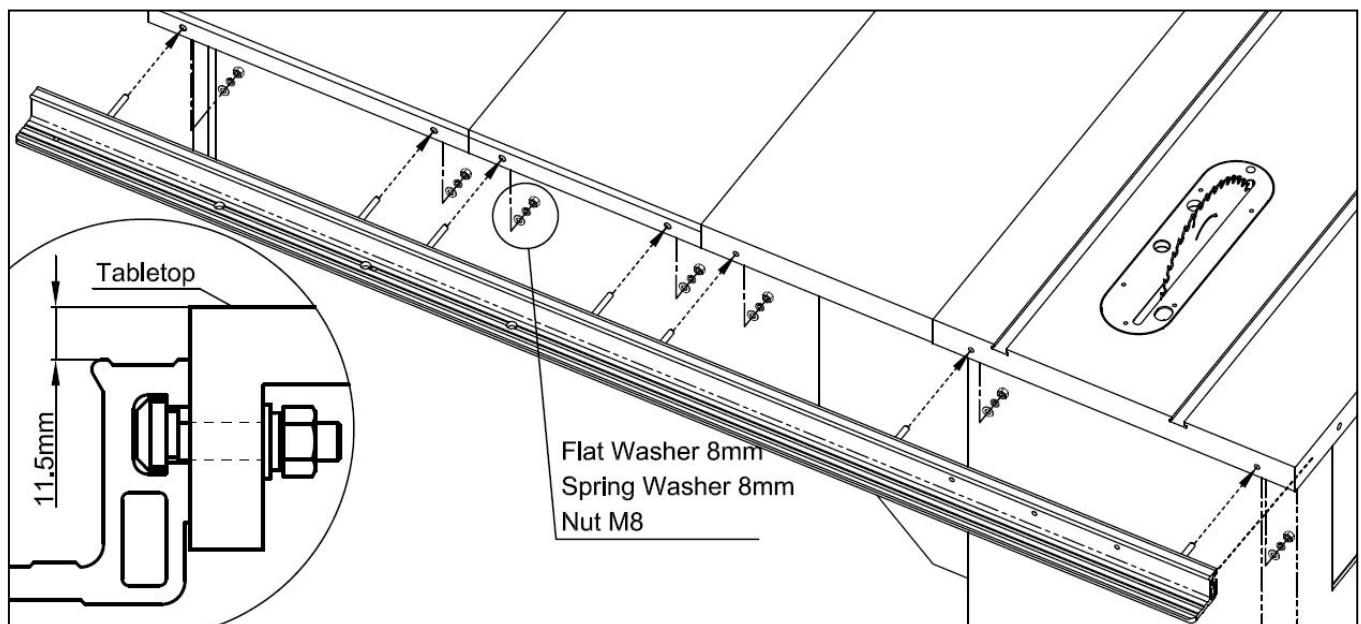
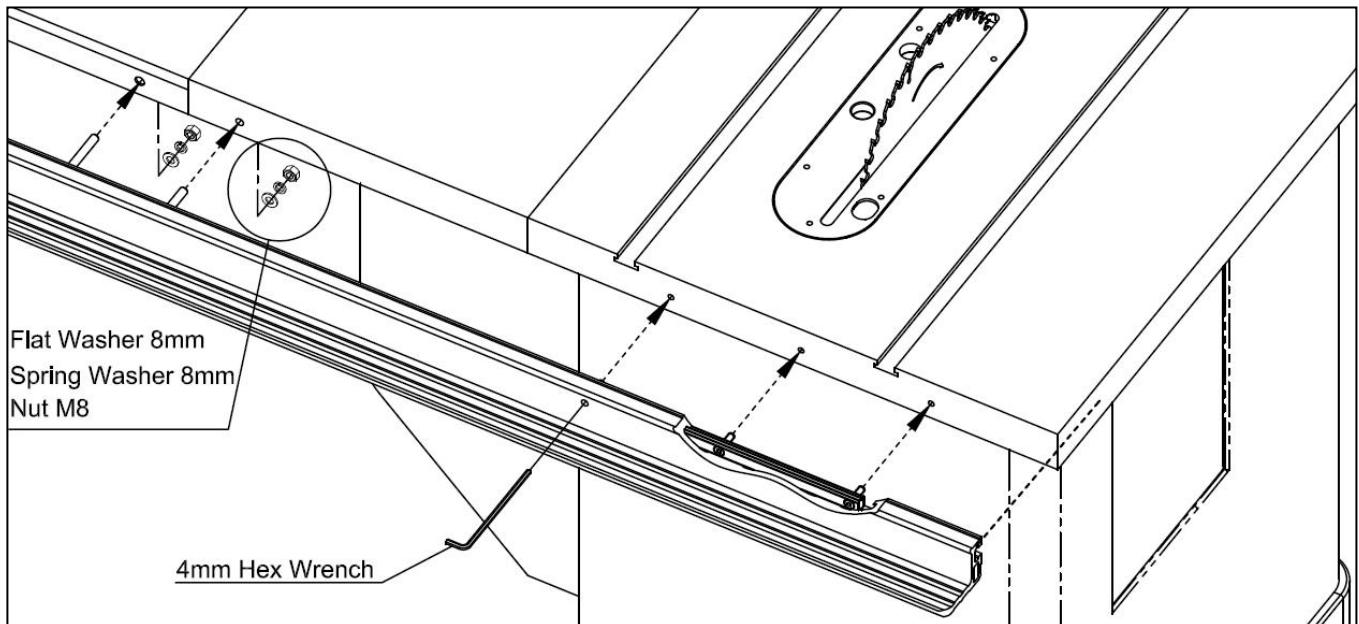

Fig. 6-7
Fig. 6-11
- As illustrated in **Fig. 6-7**, proceed to install the Rear Guide Rail Assembly, and securely fasten the nuts. Make certain that the top surface of the guide rail is situated 11.5mm below the tabletop surface, and that the end of the guide rail aligns flush with the right side (as viewed from the rear side) of the main cast iron table before tightening.
4. Position the Rear Guide Rail Assembly as shown in **Fig. 6-11** and secure it by tightening the nuts. For the Rear Guide Rail Fixed Block, use the provided hex wrench to fasten the block in place. Ensure that the top surface of the guide rail is placed 11.5mm below the tabletop, as depicted in **Fig. 6-7**, and that the end of the guide rail aligns flush with the outer edge of the main table before the final tightening.